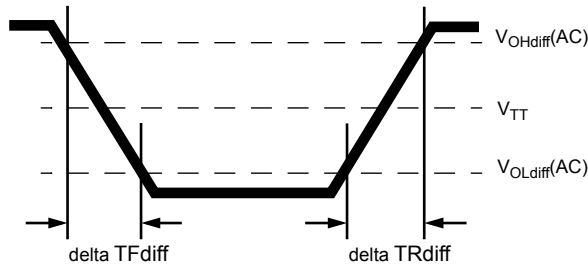

Figure 18. Differential Output Slew Rate Definition
With the reference load for timing measurements, output slew rate for falling and rising edges is defined and measured between VOLdiff(AC) and VOHdiff(AC) for differential signals as shown in Table 27 and Figure 18.
The reference load for ODT timings is defined in Figure 18.